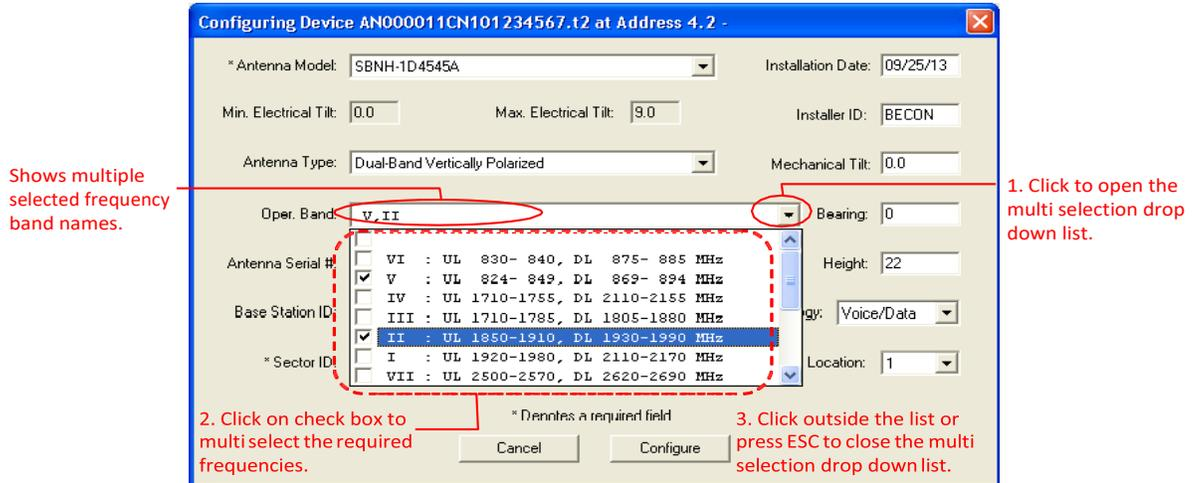

Figure 6-8. Multiple Frequency/Operating Band Selection
- Frequency band (AISG 1.1)/Operating Band (AISG 2.0) value can have multiple values set. Click on the drop down arrow in the list to open the multi selection list. Make selection by clicking on the check box for the relevant frequency. Click outside the list or press ESC key to close the list (Figure 6-8).